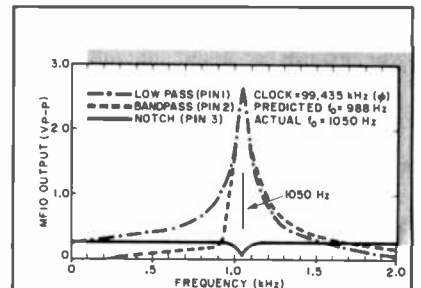
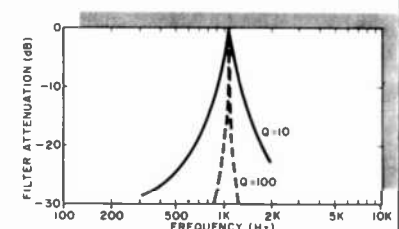
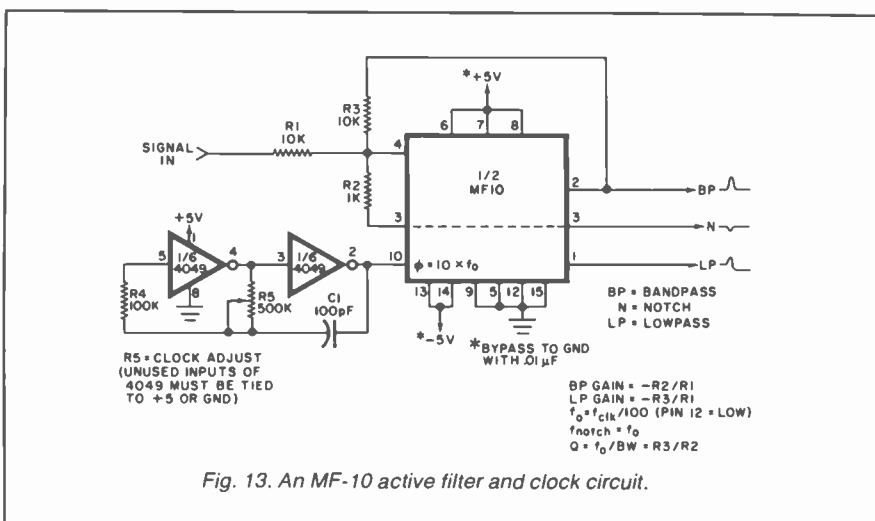

Fig. 14. Response of MF-10 (mode 1— at clock frequency of 99.435 kHz.
Fig. 15. Logarithmic plot of the same bandpass curve as shown in Fig. 14.
Fig. 13. An MF-10 active filter and clock circuit.
$S_{A/B}$  activates the internal switch that connects the input of the filter's second summer amplifier (see Fig 13) to analog ground AGND ( $S_{A/B} = \text{low}$ ) or the lowpass output ( $S_{A/B} = \text{high}$ ).
**A Tunable Lowpass/Bandpass/Notch Filter.** Figure 14 is the circuit for a straightforward LP/BP/N filter made from one-half an MF-10 and an external clock. The clock is made from two inverters in a 4049. Its frequency, and thus the frequency response of the MF-10, can be altered by changing  $R_5$ 's setting. Incidentally, while you may have often seen in this column simple oscillators such as this made from two NAND gates in a 4011, be sure to use the 4049 in this circuit. The 4011 may not oscillate at  $V_{DD} = +5V$ . (If you must use the 4011, try buffering its output with a third gate.)
The MF-10 is connected in what the application note calls the Mode 1 configuration. At least eight other modes are available. Some of the circuit's key parameters are defined in Fig. 13. The circuit is extremely easy to use. The only significant constraints are to observe power supply limits and CMOS handling precautions. Otherwise, operating the circuit is a snap.
For example, with the other values given in Fig. 13, the LP gain is  $-0.1$  (near  $f_0 = 0$  Hz), the BP gain is  $-1$  (at
Figure 14 is a plot superimposing on a linear scale the LP, BP and notch frequency response of the circuit in Fig. 13. The bandpass and notch curves appear quite normal, but the lowpass curve peaks sharply at  $f_0$ . This apparent anomaly results from the LP output being programmed by  $R3/R1$  for a gain of  $-0.1$  at  $f = 0$  Hz. This means the LP output should approximate the  $-0.26$  V peak-to-peak at  $f = 0$  Hz when  $V_{in}$  is 2.6 V peak-to-peak. Figure 14 confirms this is indeed the case.
Recall that frequency response curves for active filters are normally plotted on a logarithmic scale. Figure 15 is a log plot of the bandpass response in Fig. 14. The dashed plot represents the bandpass when the Q was increased from 10 to 100 by reducing  $R2$  to 100 ohms. Both of these plots as well as the linear scale plots in Fig. 14 are based upon actual measurements.
**Going Further.** While exceptionally versatile and easily tuned, the multipurpose filter in Fig. 13 is only one of several ways you can use the MF-10. Another way it can be operated is in a noninverting mode, or it can be configured for simultaneous highpass, bandpass and lowpass filtering. Indeed, the versatility and operating simplicity of this filter convince me that such filters will soon obsolete shelves of conventional active filter books, design notes, and computer programs.  $\diamond$